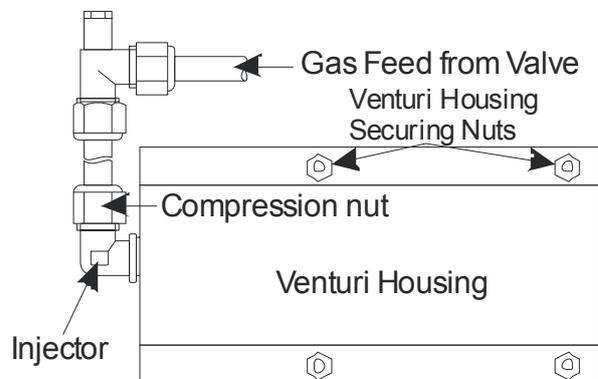

Figure 67
1. Undo the compression nut on the gas feed pipe to the injector (see **Figure 67**).